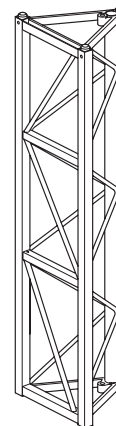

Fig.6-07 Top mast element
9. Repeat these steps until the mast has reached the required height. The last mast element to be mounted is the top mast (fig.6-07).